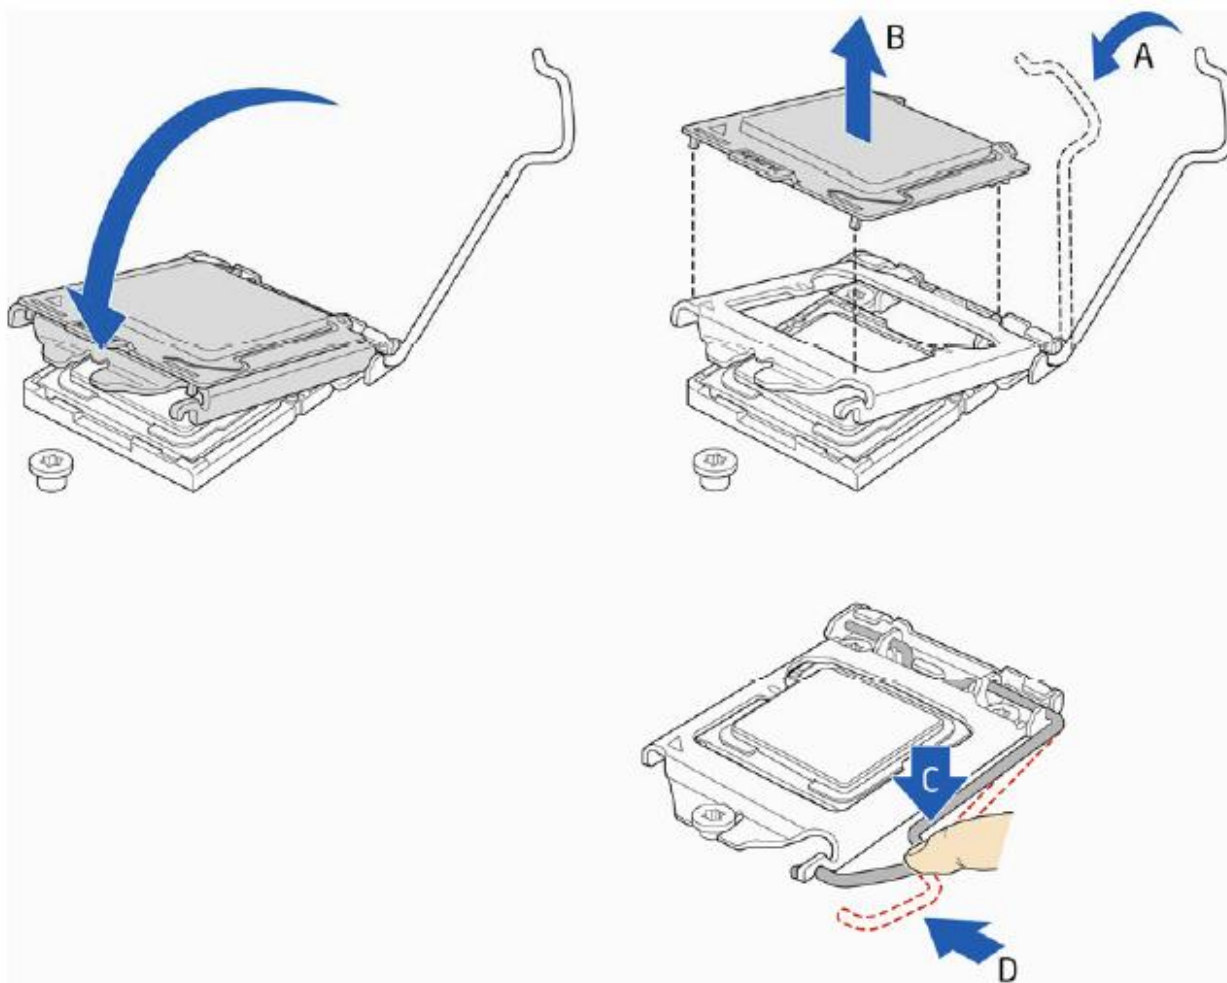

Figure 24: Secure the load plate in place
- Carefully lower the socket lever (Figure 24, A) while making sure that the front edge of the load plate slides under the shoulder screw cap as the lever is lowered. Latch the socket lever under the load plate tab (Figure 24, C, and D). The socket cover (Figure 24, B) will pop off as shown.